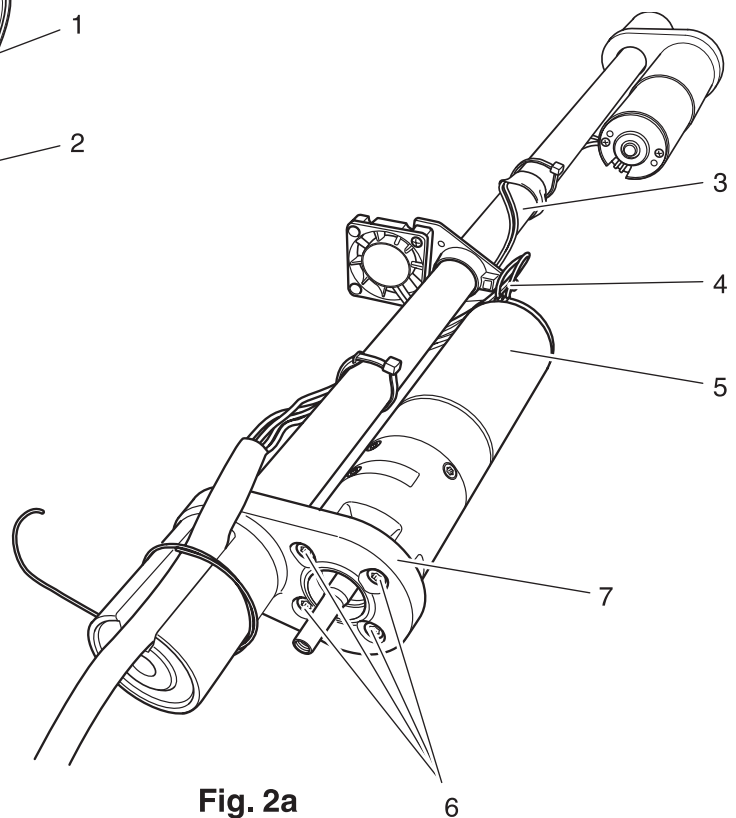

Fig. 2a
- Remove the driving units with the flanged pipe 3 (fig. 2a).